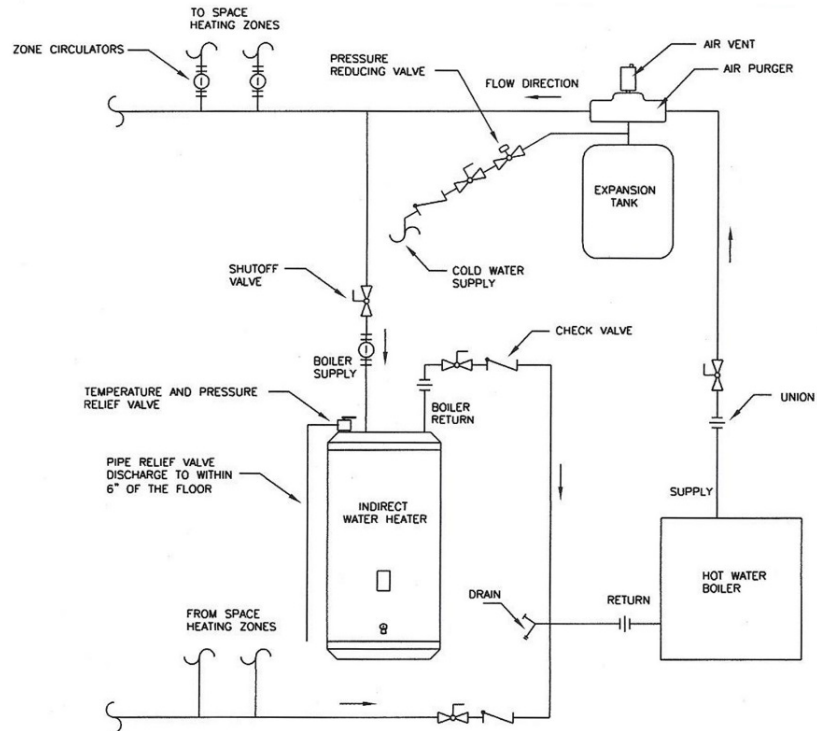

FIGURE 2 – BOILER WATER PIPING WITH ZONE CIRCULATORS
BOILER WATER PIPING (Refer to Figures 2, 3 on Pg. 11)
1. Determine where the boiler, the space heating, and the water heater connections should be made based on the type of piping system that is either in place or is to be installed for a new hydronic system installation. See Figure 2 (Boiler Water Piping with Zone Circulators) and Figure 3 (Boiler Water Piping with Zone Valves).
For space heating systems that use Zone Circulators, refer to Figure 2 on pg. 11. The water heater connection labeled “BOILER SUPPLY” should be piped to the boiler supply piping after the air purger and before the space heating takeoffs. Mount the water heater circulator as close to the water heater as possible, and make sure the flow arrow points toward the water heater. The use of shut-off valves is recommended for future service convenience.